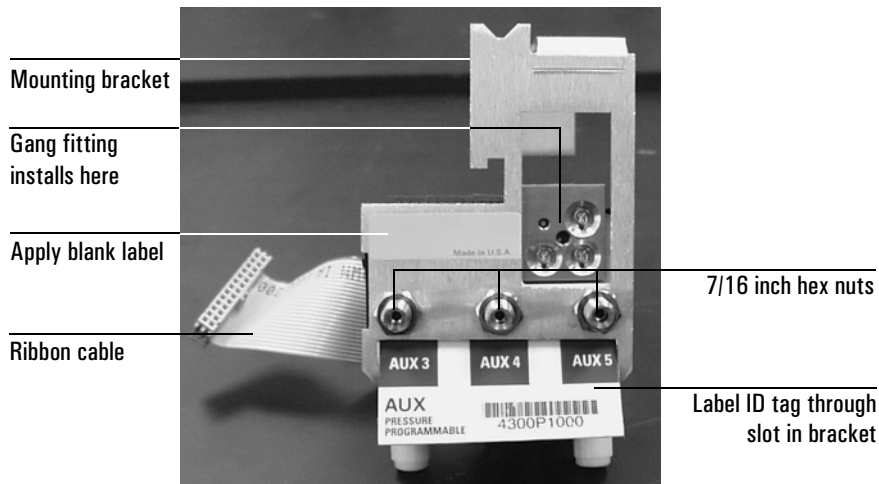

Figure 6 Bracket mounted onto the manifold
1. Slip the ID tag on the new manifold through the slot in the mounting bracket, then align the bracket holes over the gas fittings. Secure the bracket with three 7/16 inch hex nuts. See Figure 6.
2. Peel the blank label from its backing and paste it on the mounting bracket over the screw heads. See Figure 6.